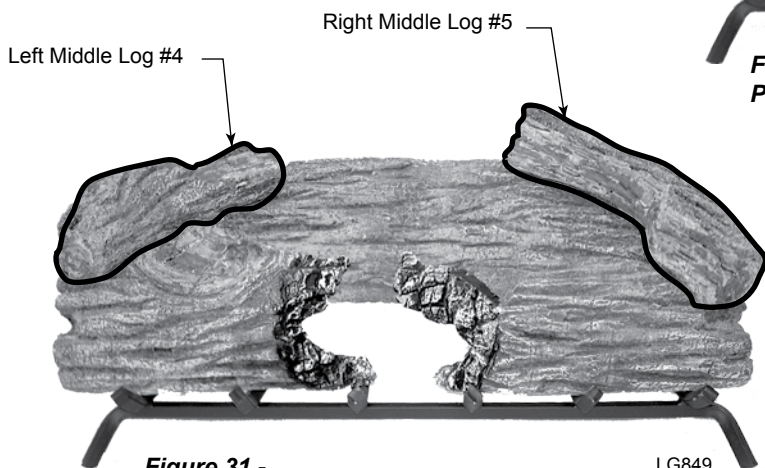

Figure 31 - Place Middle Logs
5. Place left middle log #4 as shown. *Figure 31*
6. Place right middle log #5 as shown. *Figure 31*